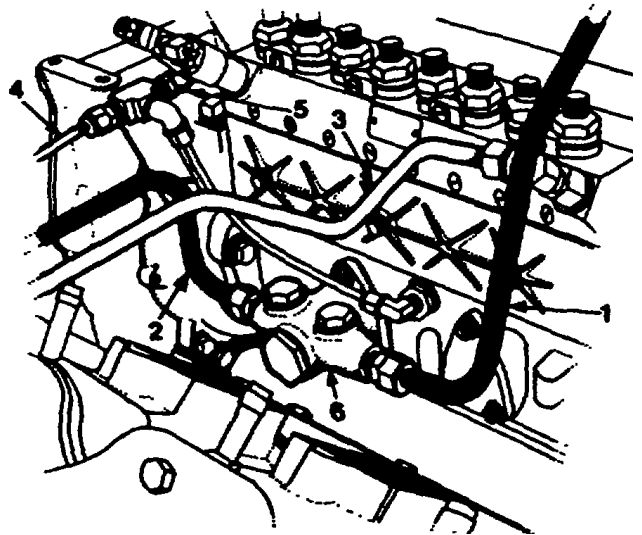

Figure 195. Removing Fuel and Oil Line From Injection Pump
9. Disconnect fuel supply line from transfer pump and remove (Figure 195).
10. Disconnect fuel line from transfer pump and fuel filter, remove line (Figure 195).
11. Disconnect fuel line from injection pump and primer pump, remove line (Figure 195).
12. Disconnect oil feed lines from tee fitting (line coming from oil filter base and oil feed line for air compressor or vacuum pump (Figure 195).